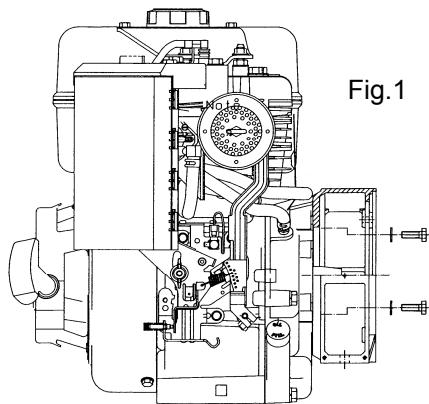

Fig.1
-) mount the front cover on the motor, fixing it with the appropriate screws and applying a tightening torque of  $48\pm7\%$  Nm if using M10 screws or  $21\pm7\%$  Nm for M8 screws (figure 1)